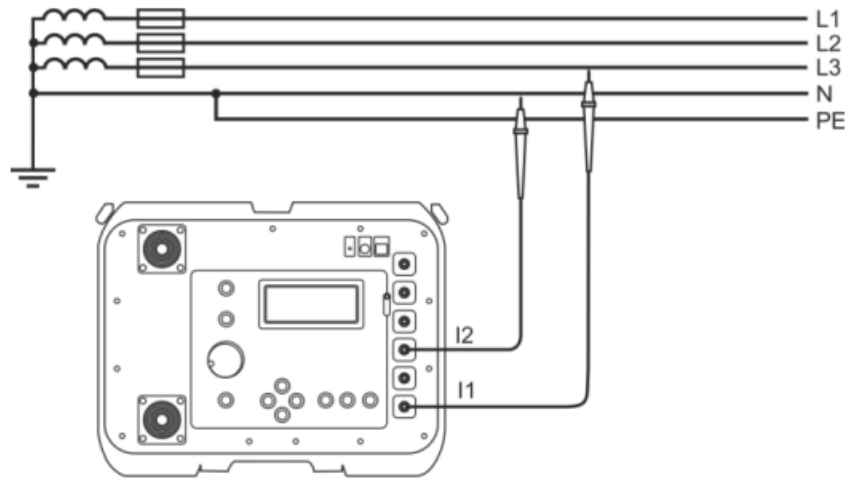
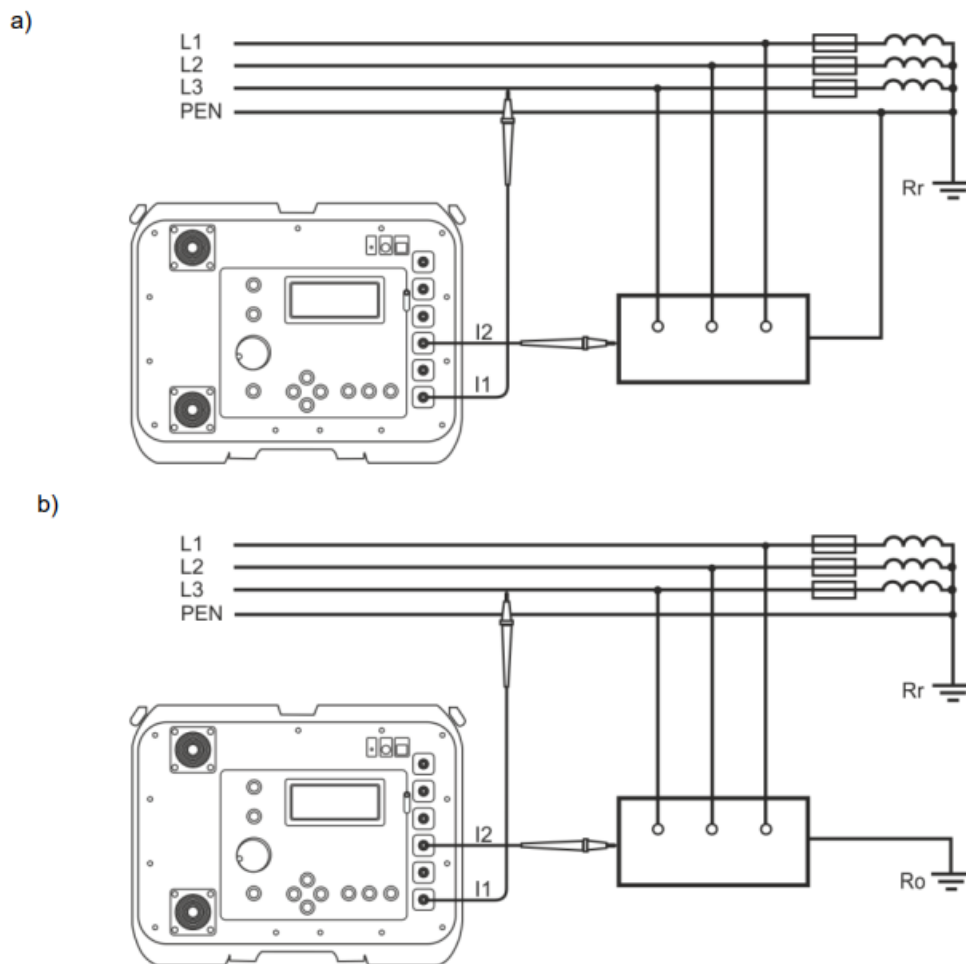

Fig. 17 Measurement of impedance in working circuit (L-N) using two-pole method
Fig. 20 Verification of anti-shock protection reliability of appliance's housing using two-pole method for: a) TN networks b) TT networks
- connect the test leads to the sockets: I1 (2p) and I2 (Fig. 17-Fig. 20),